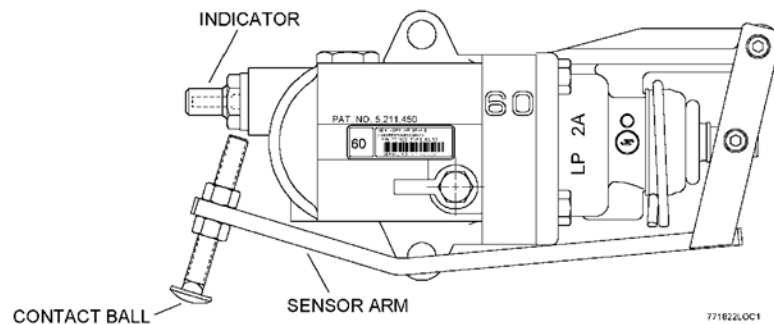

Figure 35: EL-60 Empty Load Valve Portion
5.12 EL-60 EMPTY LOAD VALVE PORTION, Fig. 35